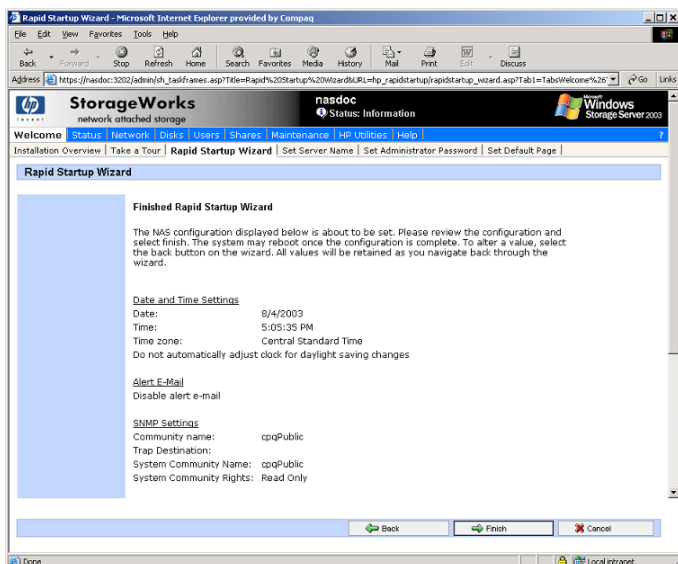

Figure 8: Rapid Startup configuration review screen
9. Verify that your information is correct when the configuration review screen is displayed as shown in Figure 8.